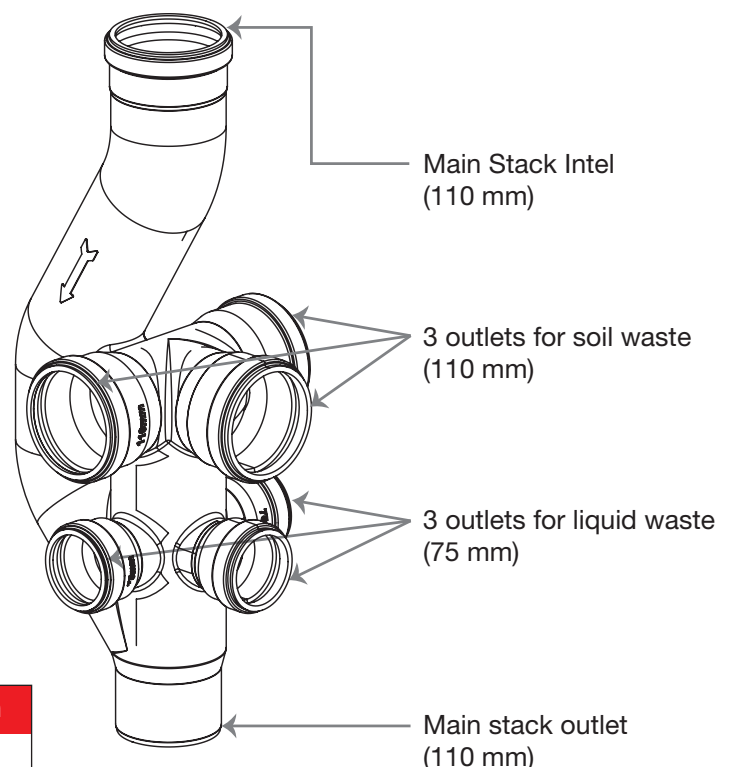

Fig. 1
- 2. Maximum Connection Flexibility (Up to 6 Outlets):** Provides supreme design flexibility with up to six connection options at a single floor level (Refer to Fig. 1):